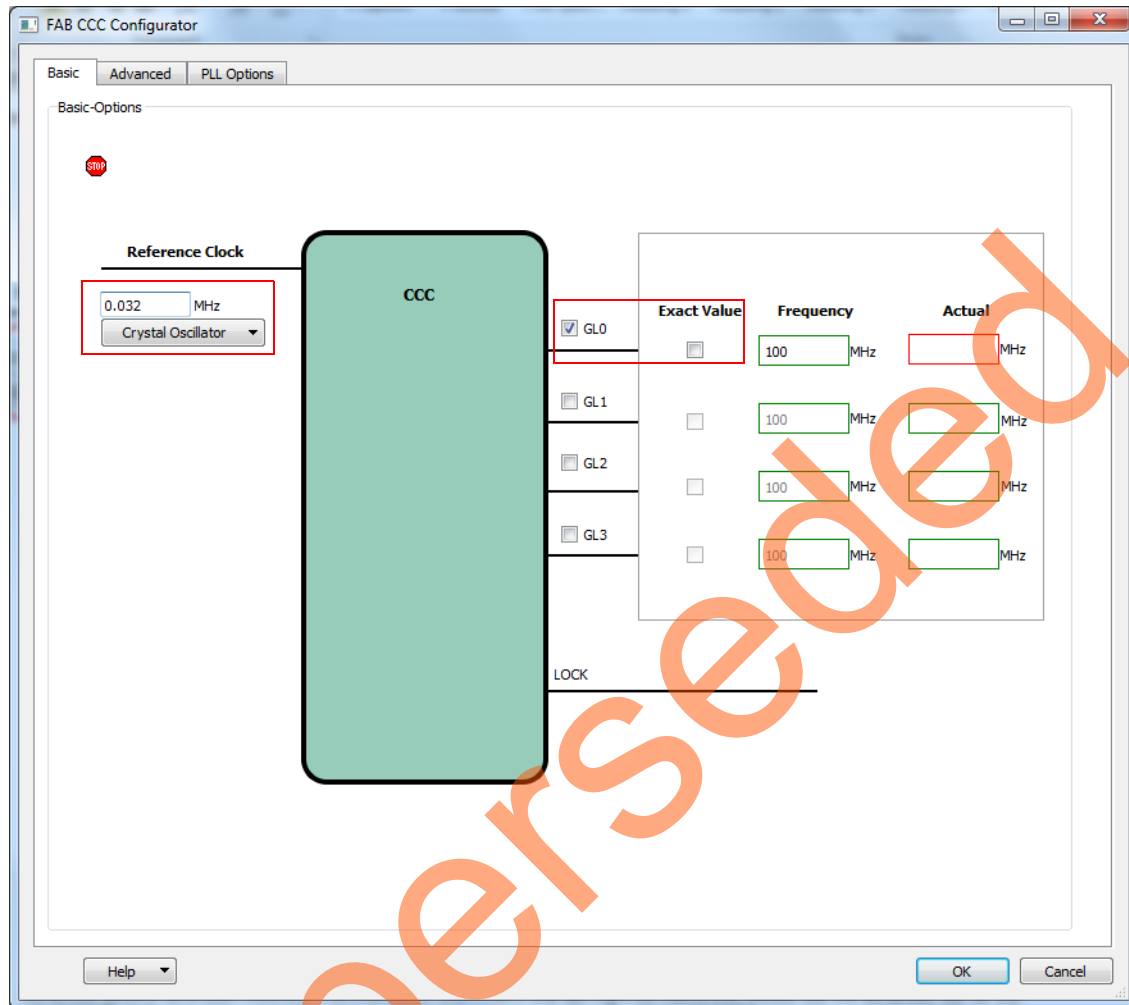

Figure 9 • Configuring Fabric CCC
14. Double-click on the FCCC_0 component in the SmartDesign canvas and open the FAB CCC Configurator window as shown in Figure 9.
15. Click **Basic** tab in the **FAB CCC Configurator** window (see Figure 9). Enter the following information: